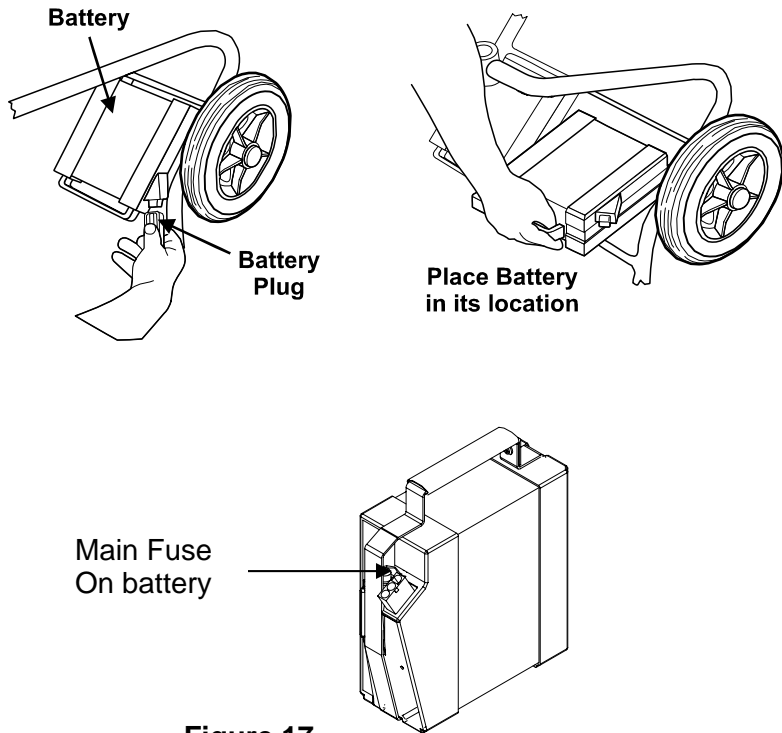

Figure 17.
- d. Remove each battery BY PULLING UP THE HANDLE AND LIFTING THE BATTERY (See Fig. 17).